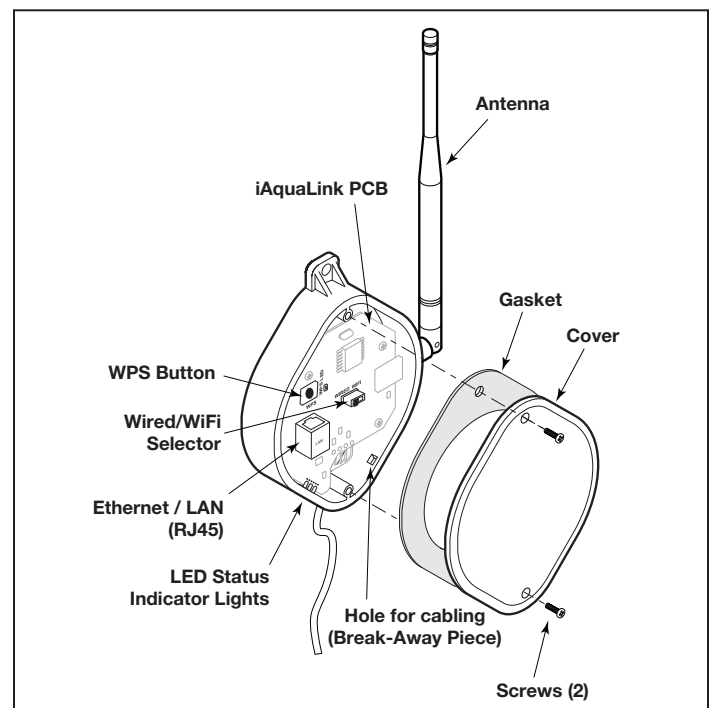

Figure 32. iAquaLink Device PCB Components
1. Remove the two (2) screws from the cover of the iAquaLink J-box. Remove the gasket and cover. See Figure 32.